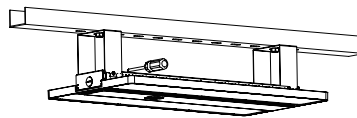

Figure 6
Step2. Assemble the lamp on the bracket and fix it with screws; **(Figure 6)**